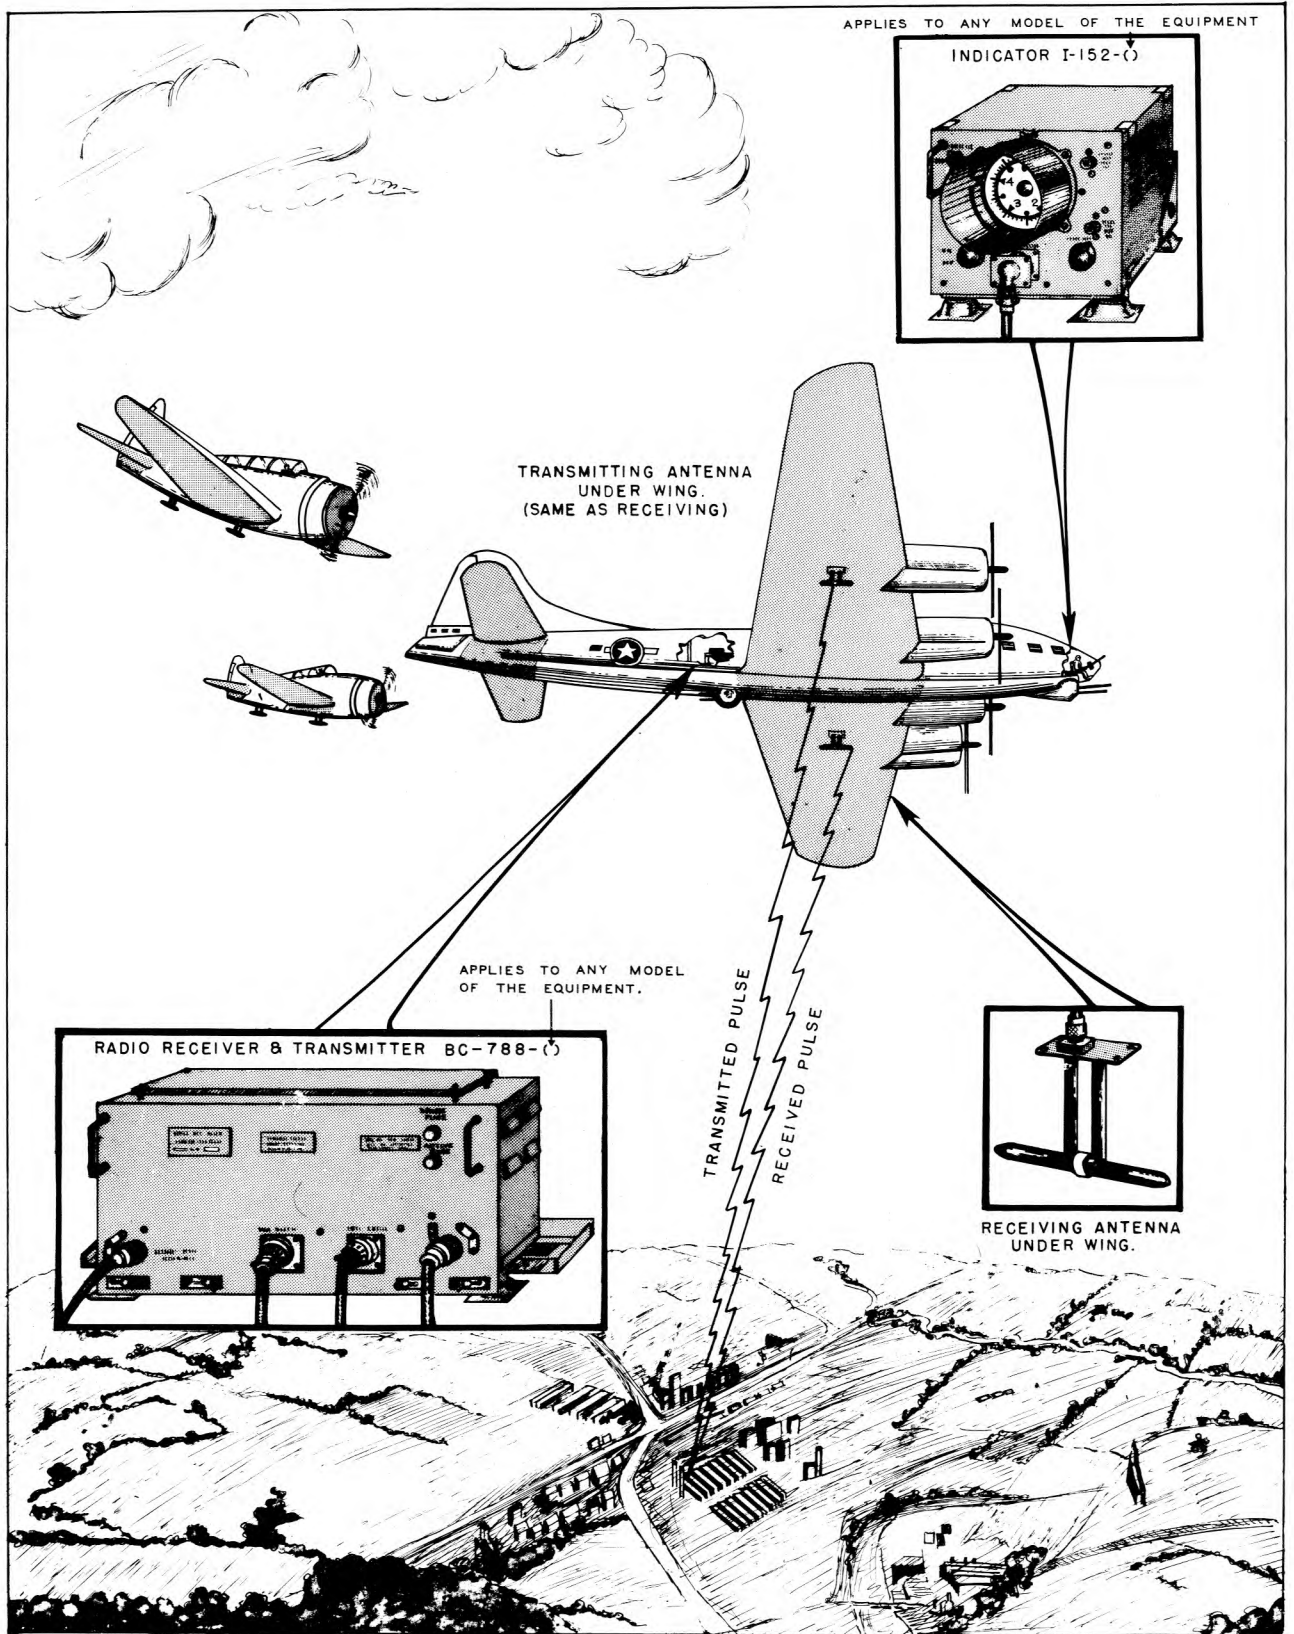

Figure 1-1. Radio Set SCR-718-(*)
a. Radio Set SCR-718-(*) (high altitude radio altimeter) is complete equipment for installation in aircraft to determine height above terrain. (See fig. 1-1.) The nominal operating range of the equipment is 0 to 40,000 feet.